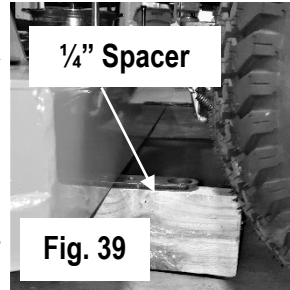

Fig. 39
3. Lower the deck down onto the 2x4's using either the deck lift pedal or the electric actuator, whichever your mower is equipped with. The deck should now be approximately 3 1/2" off the ground. to achieve the proper 1/4" pitch down in the front it may be necessary to use some 1/4" spacers under the rear of the deck as shown in Fig. 39.